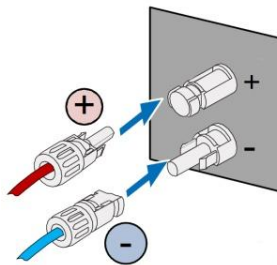

Fig 5.5 PV DC string connected to the inverter
(1) Connect the positive and negative connectors of the PV strings that have been connected to the corresponding positions of the inverter DC interface, and confirm the tight connection, as shown in Fig 5.5;
(2) When disassembling the DC connector from the inverter, insert the tip of a slotted screwdriver into the raised hole in the middle of the connector, and force the movable end of the connector to withdraw.